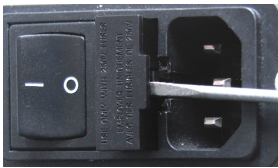

Fig. 6—Insert the screw driver under the fuse housing lip and pry the housing open.
3. Insert a small flat blade screwdriver under the lip on the right side of the fuse housing cover (Fig. 6).